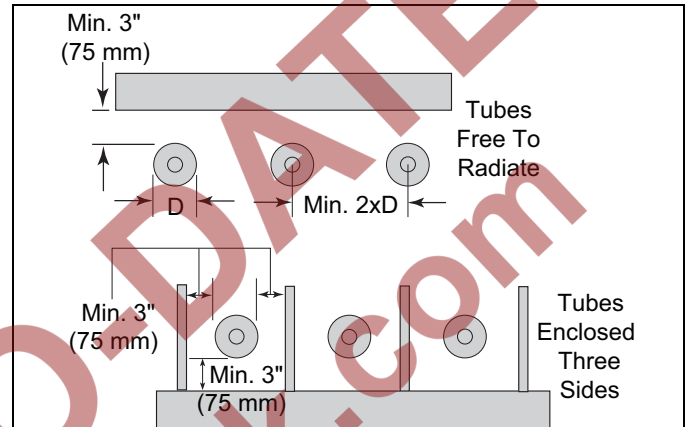

Figure 3.4 SER Burner Sizing Example
Determine which number of tubes will best serve the construction and chamber uniformity requirements. Remember to follow the guidelines for safe tube mounting shown in Figure 3.4. When necessary, adjust the net output per tube if the tubes will be enclosed on three sides as outlined in Figures 3.4 and 3.5.
**NOTE:** The spacing of the burners should be such that the center line to center line is a minimum of twice the diameter of the outer tube and a minimum of 3" (75 mm) from furnace surfaces (Figure 3.4).